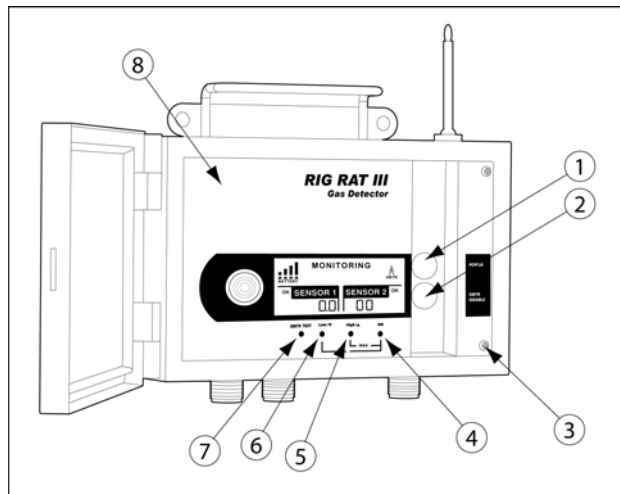

Figure 2. Operations Bay Panel
- Figure 2 and Table 5 describe the operation bay panel of the detector.